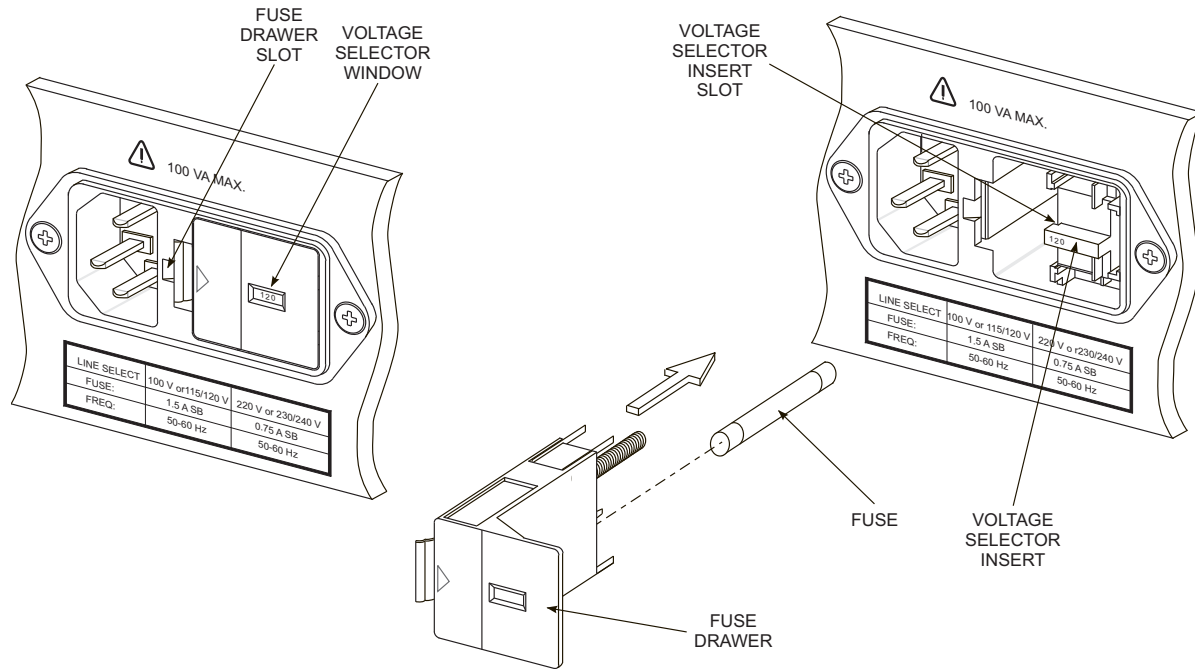

Figure 2-1. Fuse and Voltage Selector Insert Locations
**To prevent damage to the counter, verify that the voltage value visible through the window in the fuse drawer (see Figure 2-1) is correct for the available AC power-input voltage, and inspect the fuse to ensure that it is the correct type and that it matches the rating specified in Table 2-1.**
The fuse is located inside the rear-panel power-input-module assembly (see Figure 2-1). Use only the fuse types listed in Table 2-1.
The voltage-selector insert is located inside the rear-panel power-input module (see Figure 2-1). The insert must be installed correctly for the available AC line voltage. To change the voltage, remove the fuse drawer as described on page 2-2, insert a screwdriver in the slot on the side of the voltage-selector insert, and gently pry the voltage-selector insert out while pulling the tab on the voltage-selector insert towards you. Reinstall the voltage-selector insert so the correct voltage is visible on the tab on the insert. Slowly push the fuse drawer back into the power-input module until it snaps into place.